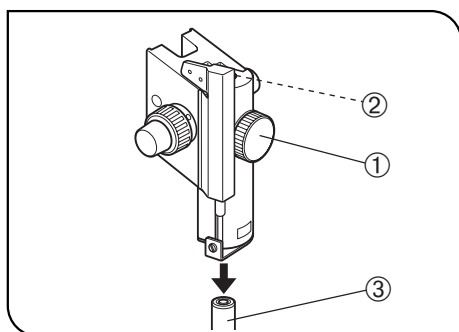

Fig. 31
1 Mounting the Focusing Assembly (Fig. 31)
1. First loosen the focusing assembly clamping knob ① completely and, while holding the focusing assembly with both hands, insert the pillar ③ into the mounting hole ② from below. (Fig. 31)
2. Lower the focusing assembly until it stops, then tighten the focusing assembly clamping knob ①. (Fig. 31)
★ If the clamping knob ① is tightened while the pillar ③ is not completely inserted into the mounting hole ②, the plate spring supporting the pillar from the inside will deform and the pillar will not be able to penetrate into the hole. (Fig. 31)